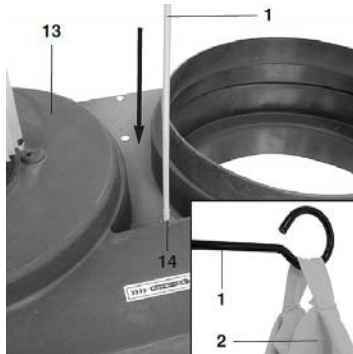

Fig. 9: Mounting dust bag hook
Step 7: Insert the dust bag hook (1) into the hole (14) on the plastic housing (13) and hook the dust bag (2) onto the dust bag hook (Fig. 9).